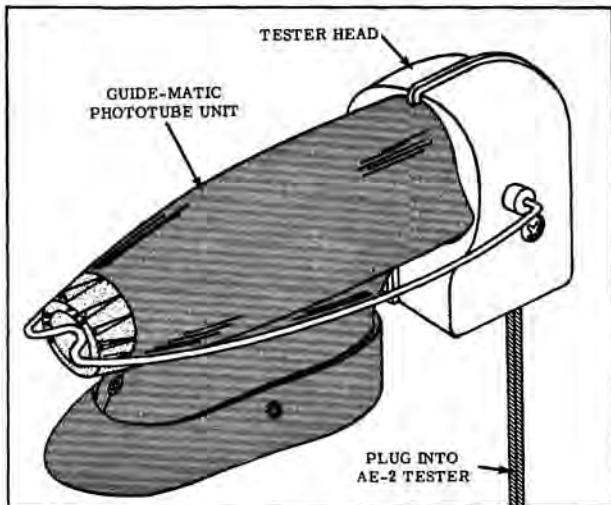

Fig. 12-46 Tester Head Installation
1. Place tester head against front of phototube unit and position bail into place over sensitivity control knob. Plug tester head into modified AE-2 tester. (Fig. 12-46)
3. Turn Zero Corrector on face of tester until meter pointer is on zero set line. (Fig. 12-46)